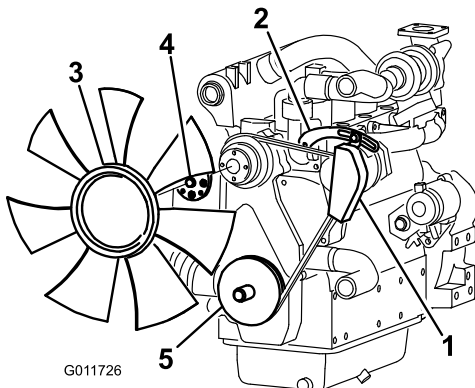
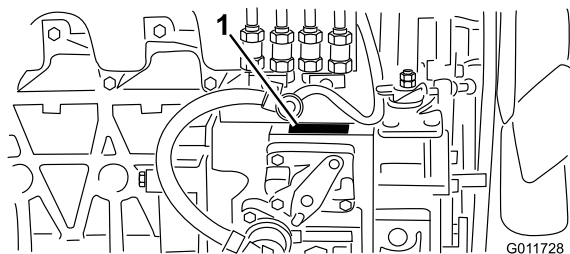

Figure 1
Figure 3
4. Remove the bolts and washers securing the alternator and shield to the adjusting arm and mounting bracket (Figure 1). Retain the alternator and fasteners for installation with the new components. Discard the shield.
6. Remove the bolt securing the alternator adjusting arm to the engine (Figure 1).
10. Remove the (4) bolts securing the fan clutch to the adapter (Figure 1). Remove the fan and the fan clutch.
12. Remove the (4) socket head bolts securing the fan adapter to the alternator pulley (Figure 1).
13. On traction units with the engine serial numbers prior to 1W0001, the engine crankshaft pulley must be removed and replaced. The engine serial number is on a plate located by the injection pump (Figure 3). Remove the crankshaft pulley (Figure 1) and replace it with Toro Part No. 105-4576. Torque the nut to 101-116 ft./lbs. (137-157 N-m). Use caution when tightening the nut not to damage the crank shaft seal by placing side load on the crankshaft.